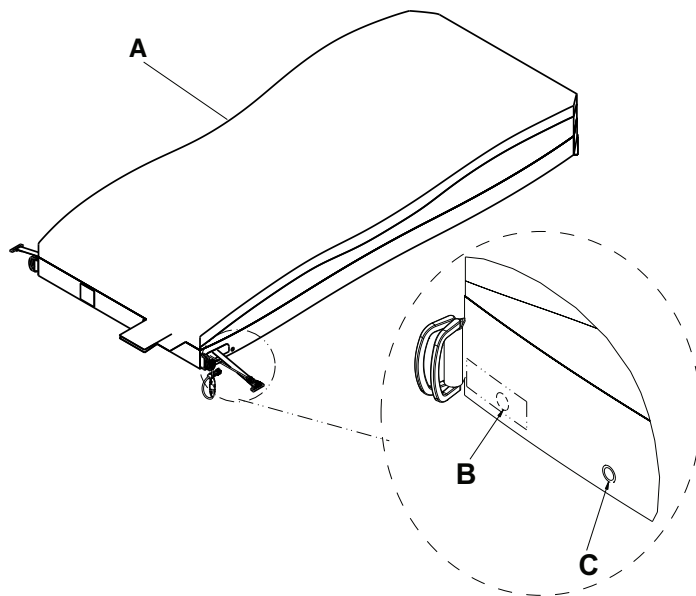

Figure 8 – Top cover
5. Unsnap the two secure snaps (C) at the foot end corners (Figure 8).
6. Unsnap the two foot end corner retainers (B) (Figure 8).
8. Using the zipper pull tool or equivalent, unzip the support surface top cover from the bottom cover (A) (Figure 8) and stop unzipping at the middle of the opposite side (D).